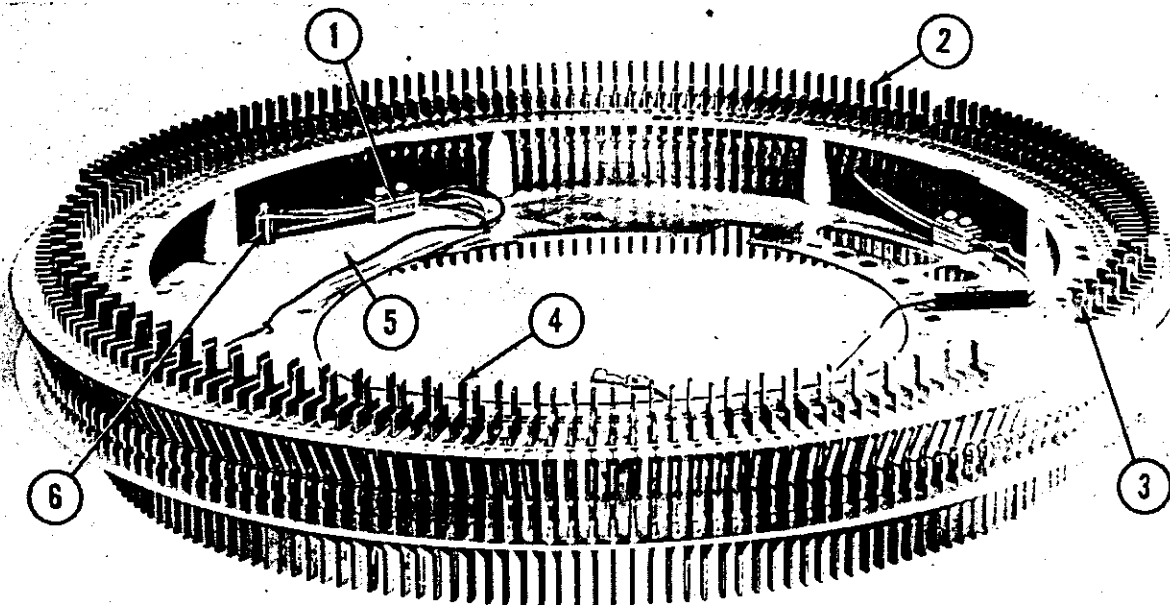

Fig. 28. SELECTOR PLATES AND LATCH PIN ASSEMBLY
- (1) The selector plates and latch pin assembly (Fig. 28) is made up of three types of latch pins